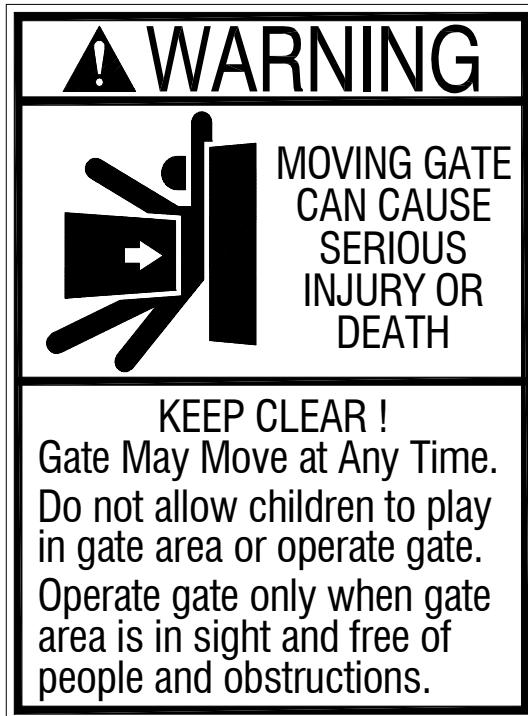

**Figure 3**
- Use the illustration at left (Figure 3) to minimize the risk of injury in your design of the slide gate operator system. **IDENTIFY THE ENTRAPMENT ZONES AND PINCH POINT AREAS IN YOUR GATE.** Design the gate installation to minimize the risk of entrapment in these areas. Install additional safety equipment such as four wire edges and photocells to further minimize risk. All entrapment zones are required to be protected.
- **Entrapment Zones:** Design in personal entrapment protection devices to protect people from entrapment in the zones shown in Figure 3 at left. Install vertical posts with gate edges attached on both sides of the gate to prevent body entrapment.
- **Pinch Points:** Use protective measures (guards, padded edges, etc.) to protect people from the pinch points shown in Figure 3. Attach roller guards in cantilevered gate systems to minimize the risk of hands being caught between the top of the gate and the roller.